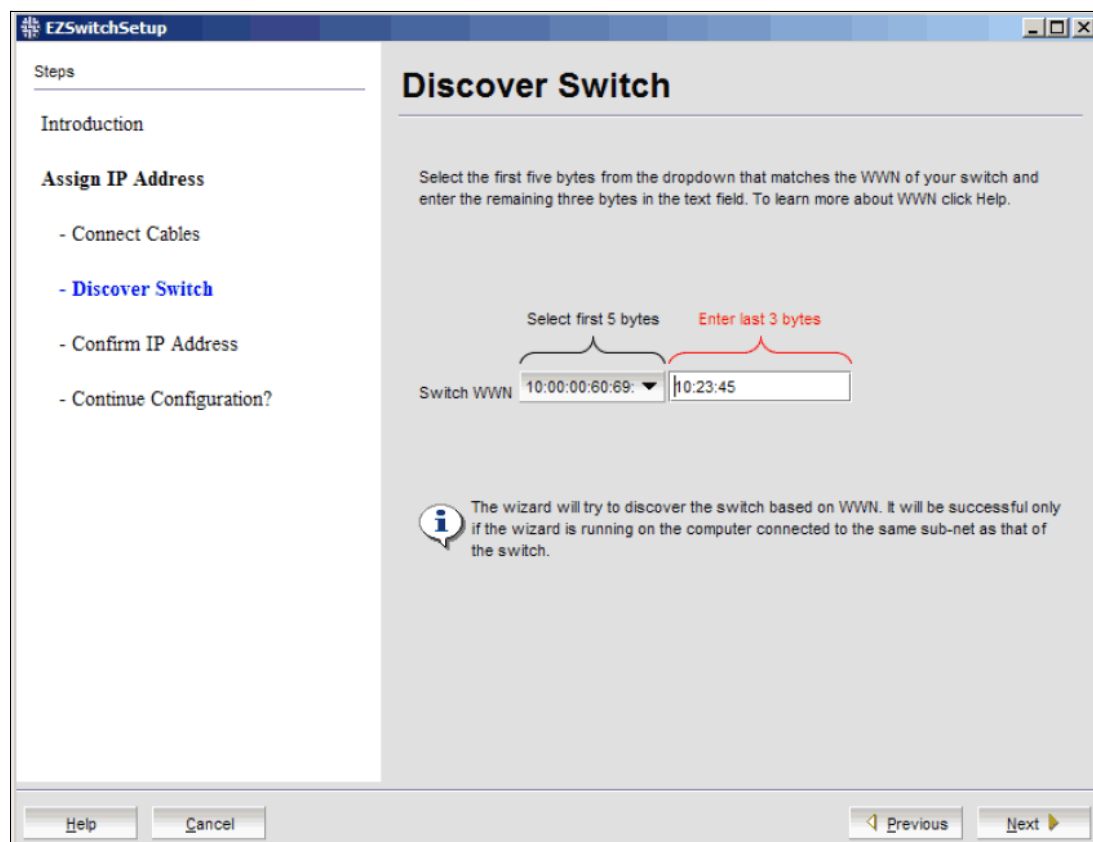

Figure 4-4 Discover Switch window
If you are using an Ethernet LAN connection, the Discover Switch window opens, as shown in Figure 4-4.
2. Click the **Switch WWN** drop-down menu (Figure 4-4), choose the switch’s WWN prefix numbers, and then enter the last six alphanumeric digits of your switch’s WWN. Each two alphanumeric digits must be separated by a colon.
- ▶ If you selected **Discover another switch on the same subnet for IP assignment only**, the Discover Switch window opens (Figure 4-4 on page 156). Go to “Discovering the switch” on page 156 and provide the WWN for the next switch.